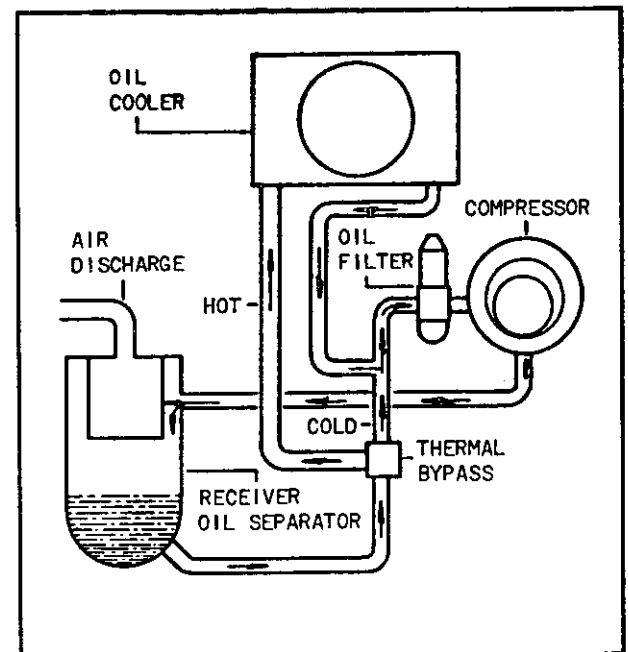

Figure 1-2. Oil cycle schematic diagram
b. OIL CYCLE. (See figure 1-2.) After oil is separated from the compressed air, it accumulates